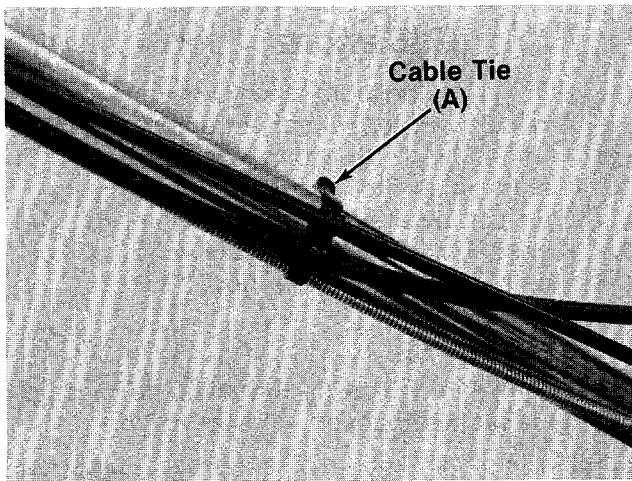

FIGURE 9.
- 16. Secure the control cables to handle with cable ties (A) provided. See figure 9.